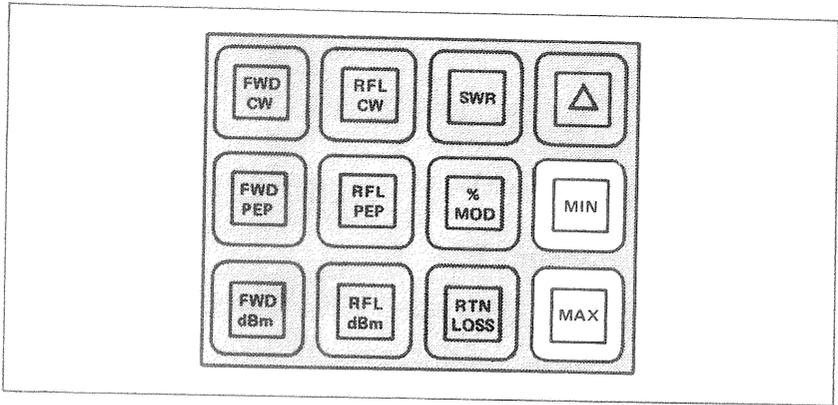

Figure 3-8. Maximum or Minimum Readings.
h. Monitoring Maximum and Minimum Readings. (Figure 3-8.) While operating in any of the modes described, the 4391 will continuously keep track of the highest and lowest reading obtained. This action begins after ten reading cycles to allow time for the peak detectors to settle from the previous mode. To recall the maximum or minimum reading, hold the **MAX** or **MIN** key depressed. When these keys are released, the meter goes back to displaying the current value of the parameter being measured. Recalling maximum or minimum does not stop the meter from continuing to monitor the current value and updating the minimum and maximum registers. To clear the minimum and maximum register, the mode key must be pressed again or a new